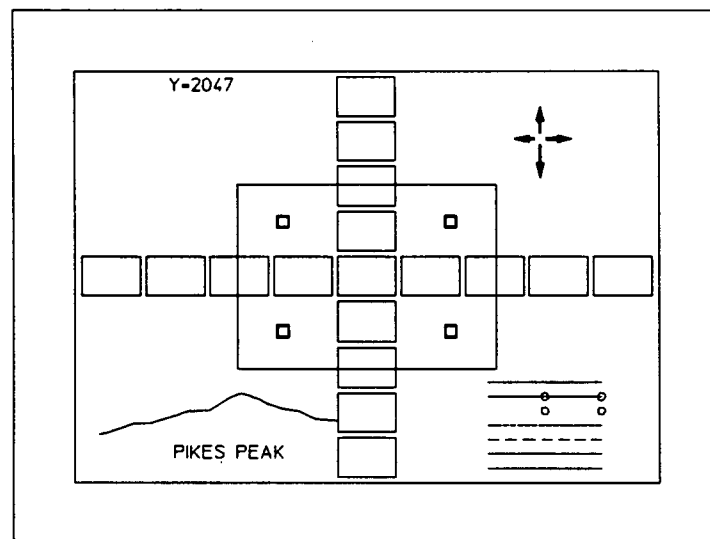

Figure 7-2. Display of Verification Pattern
2. Set jumper A17 W1 (located in hole in display shield) to the test (T) position with the power on.
3. The pattern displayed should be the same as shown in figure 7-2. The main lines should all connect as shown and the lines in the lower right corner should be parallel. If this pattern is not displayed start with the Display Unit troubleshooting procedures in Section VIII.
4. Set jumper A17 W1 to the normal (N) position.